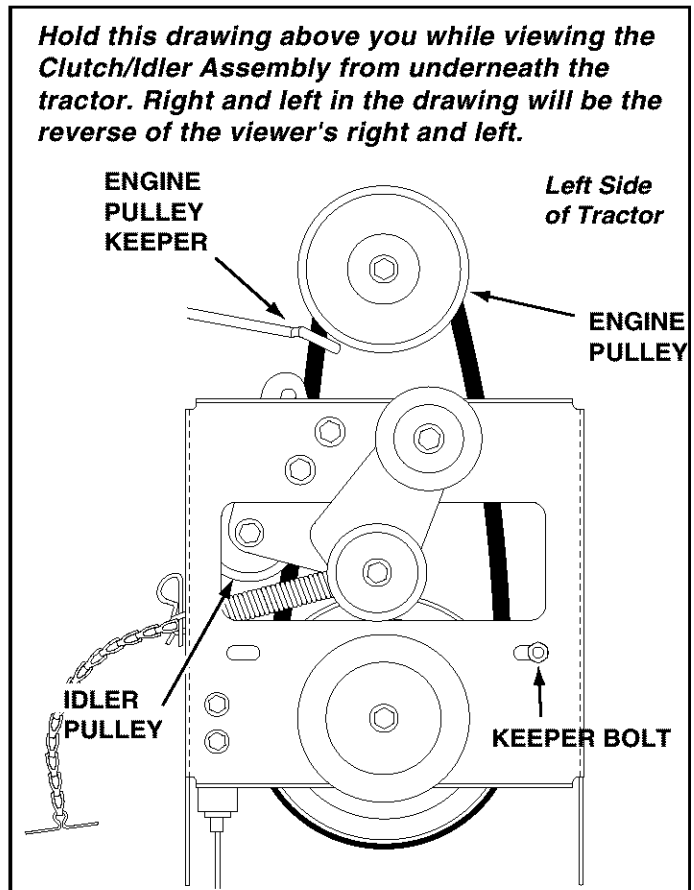

FIGURE 18 VIEWED FROM UNDERNEATH
- Assemble the short "V" belt onto the engine pulley and then onto the large pulley on top of the clutch/idler assembly. The belt must be placed to the inside of the engine pulley keeper, the idler pulley and the keeper bolt located beside the large pulley. See figure 18.